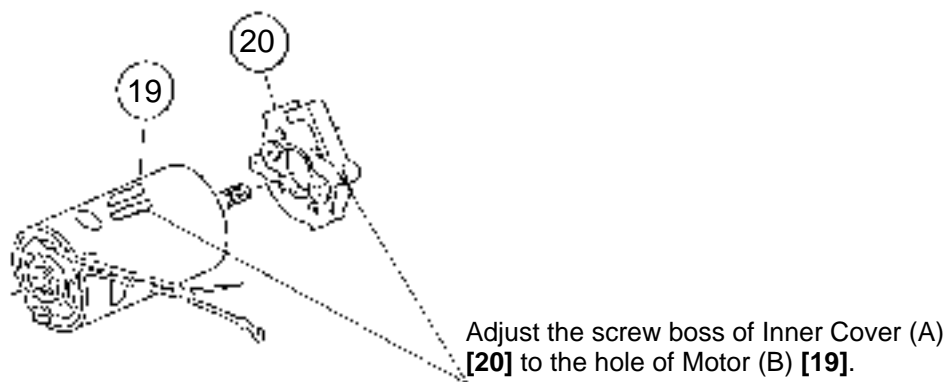

Fig. 7
(b) Mount Inner Cover (A) [20] to Motor (B) [19] as illustrated in Fig. 7.